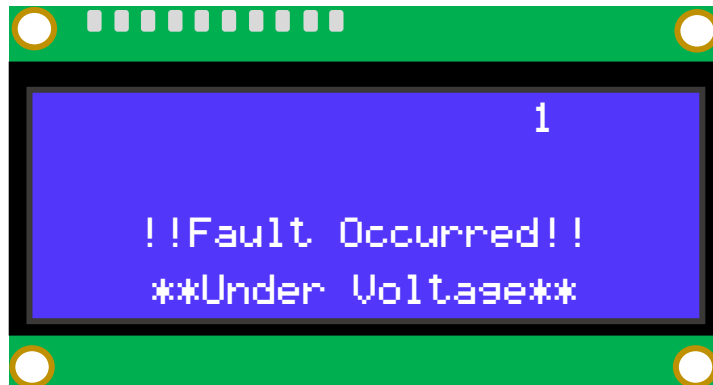

Figure 8 Fault Occurred with the Fault Name.
1. In the case of a problem, the display will indicate "Fault Occurred" along with the fault name status (*Figure 8*). Refer to section 6.2.1 for further information about the fault.